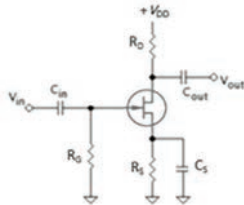

Figure 8.18 Ch 8: No. 10, self-test
10. For the JFET CD amplifier of Figure 8.18, determine the input and output resistance R_{in} , R_{out} , and voltage gain A_V , if R_G is 4 M Ω , R_D is 1 k Ω , R_L is 8 k Ω , and g_m is 4 ms.